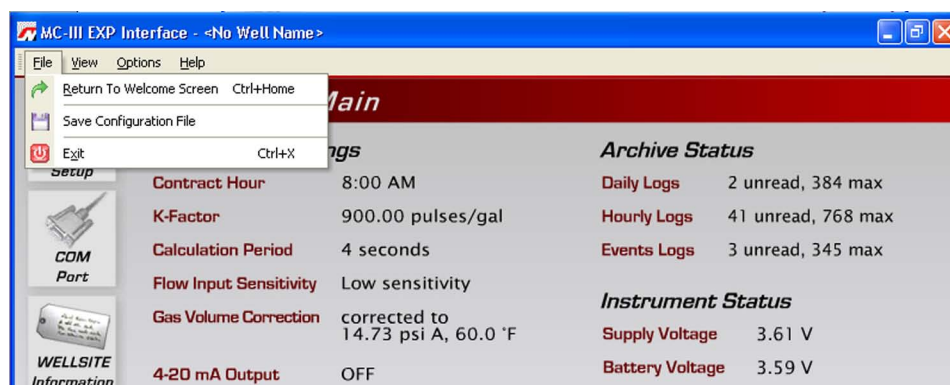
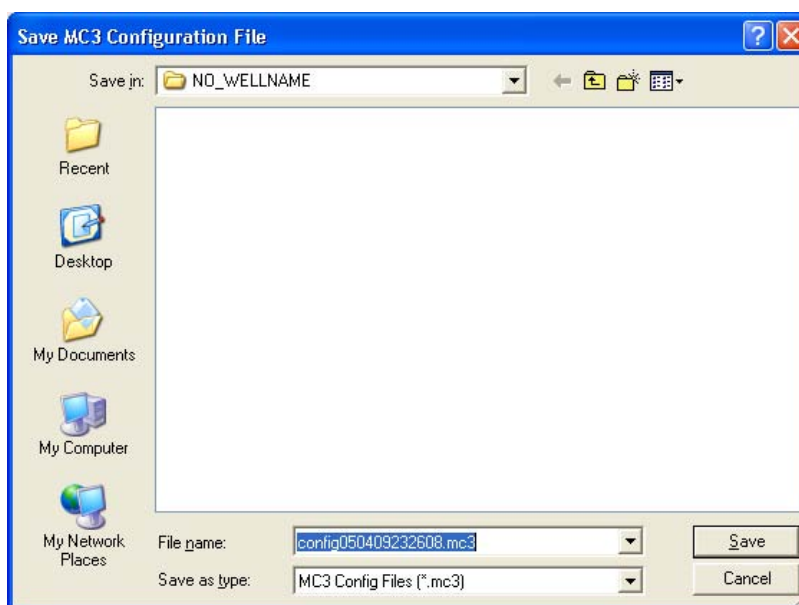

Figure 4.35—File dropdown menu allows user to save a configuration file
Figure 4.36—Default directory for configuration files
1. Select File>Save Configuration File (Figure 4.35). A "Save MC3 Configuration File" screen (Figure 4.36) will appear, prompting the user to save the file to the computer hard drive. The default directory is C:\NuFlo log data\MC-III\<WELL NAME>, however the user can specify a new location, if desired.
The “wellname” folder will bear the well name that appears on the Wellsite Information screen. If no well name is entered on this screen, the folder will be named “NO_WELLNAME” (Figure 4.36, page 75).